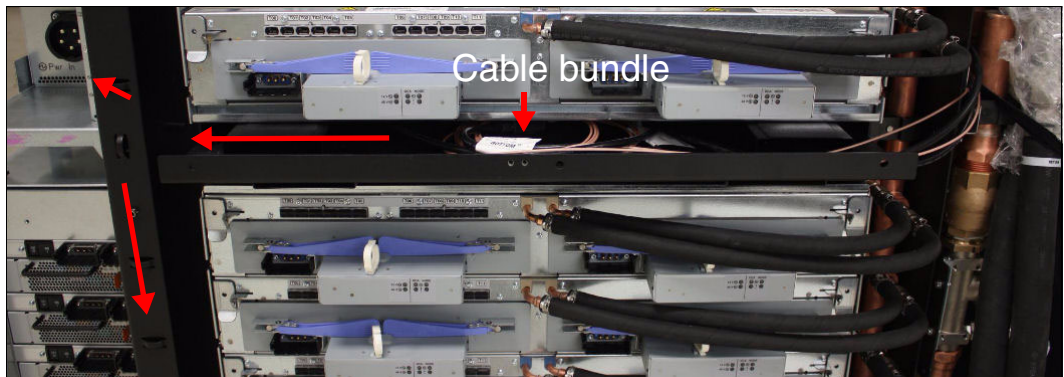

Figure 1-15 BPE environmental cable bundle
- Ensure that you have the correct cables. There are two 9-way D-type and two coaxial F-type connector cables coiled together in the middle of the frame. See Figure 1-15. One D-type connector and one coaxial F-type connector cable make an upper and lower BPE bundle.
The coaxial F-type connector is used for BPE-to-BPE communications for each midplane for controlling the power ON/OFF function. The coaxial cables are thin, brown cables that are seated by using a threaded locking collar. Figure 1-15 shows the environmental cable bundle.